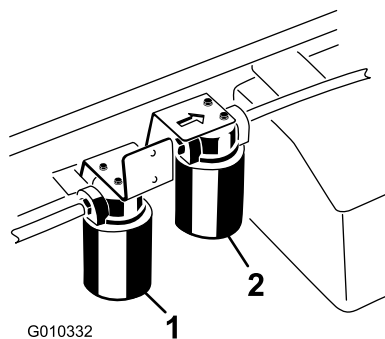

Figure 69
2. Clean the area around filter mounting area. Place a drain pan under the filter and remove the filter (Figure 69).
1. Clean the area around the high flow filter mounting area (Figure 69). Place a drain pan under the filter and remove the filter.